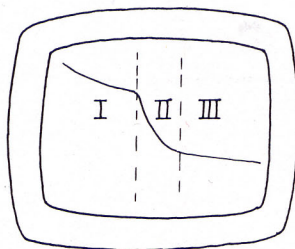

Figure 24.1
2. Study your graphs. They should look something like Figure 24.1. Draw vertical dashed lines to break your graphs into three distinct regions. Region I covers the time before the shot was added. Region II covers the time while the shot was coming to equilibrium with the water. Region III covers the time after the shot came into equilibrium and began losing heat to the room.